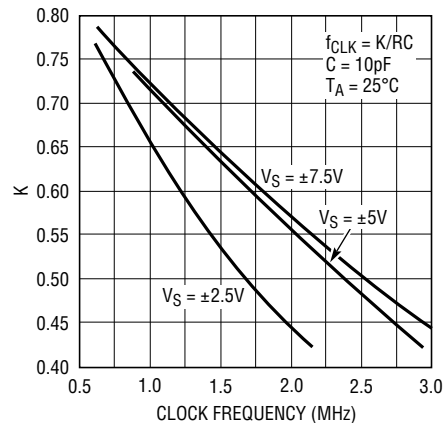

Figure 6. f_{CLK} vs K
For a very limited temperature range, the internal oscillator of the LTC1063 can be used to generate clock frequencies above 500kHz (Figures 6 and 7). The data of Figure 6 is derived from several devices. For a given external (RC) value, the observed device-to-device clock frequency variation was $\pm 1\%$ ($V_S = \pm 5V$), and $\pm 1.25\%$ for $V_S = \pm 2.5V$.
from Figure 6, $K = 0.575$,